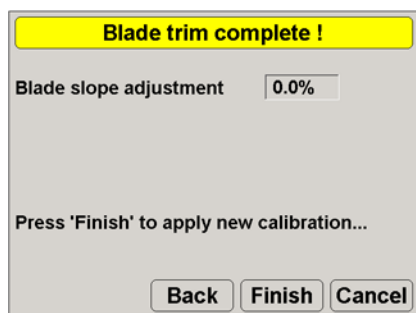

Figure 4-15. Blade Trim Complete
8. Press **Finish** to apply the new adjustment (Figure 4-15 on page 4-12). Press **Cancel** to use previous adjustments.